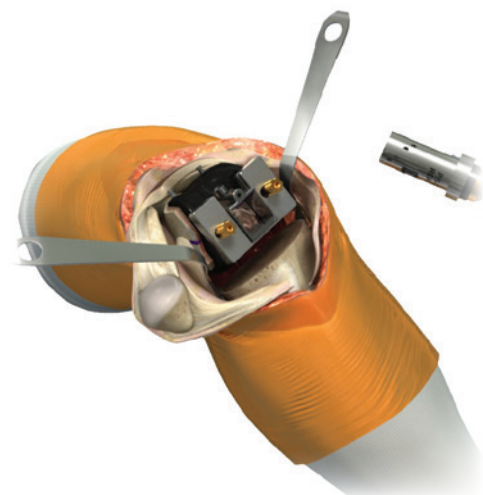

Figure 21
- 4a. If polymer femoral trials are used then attach the collet guide housing first on to the distal surface of the femoral trial by screwing in the distal screws into the femoral lug holes. Then slide the appropriate sized collet guide into the housing from anterior to posterior (Figure 21).